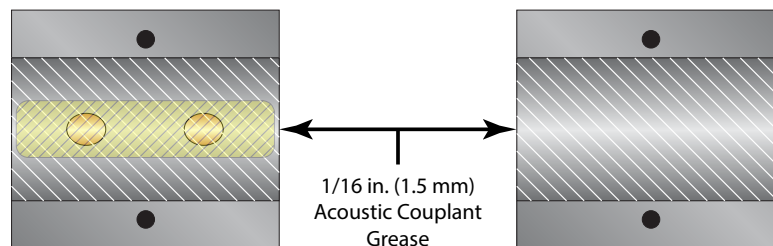

Figure 14: Application of acoustic couplant — FDT-41...46/FDT-41...46-xxx-HT transducers
1. Apply a thin coating of acoustic coupling grease to both halves of the transducer housing where the housing will contact the pipe. See *Figure 14*.